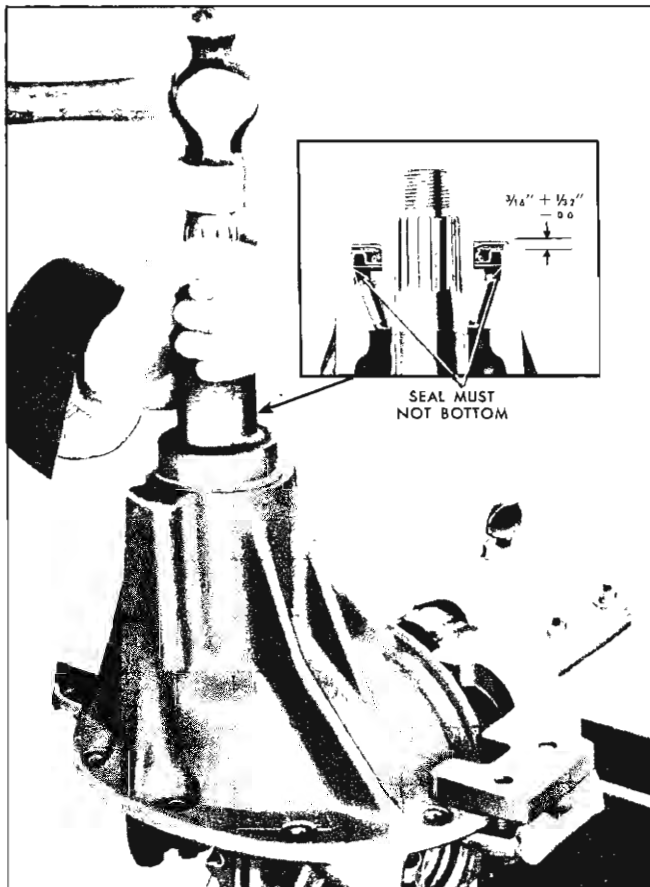

Fig. 27—Installing Oil Seal
5. Soak new oil seal for 10 minutes in light engine oil. Wipe O.D. at seal and coat with a sealer such as G.M. Perfect Seal Sealing Compound (Pt. No. 987266). Using Tool J-5154 (fig. 27), install new pinion shaft oil seal so that the top of the seal is located $\frac{3}{16}$ " "plus $\frac{1}{32}$ " or minus "0" from the front of the differential carrier. See inset Figure 27.